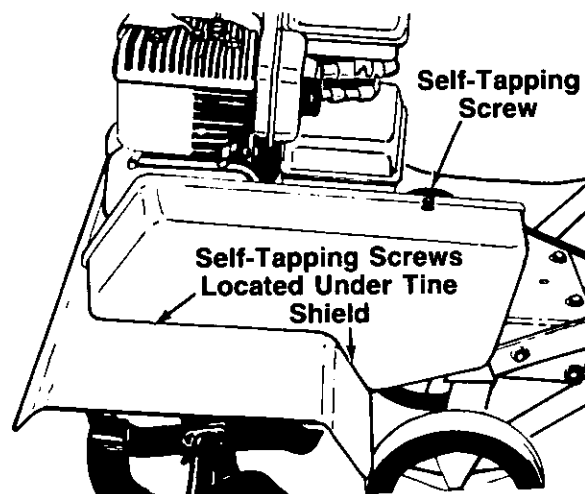

FIGURE 28.
1. Remove the belt cover by removing three self-tapping screws. A 3/8" wrench is required. See figure 28.
2. After removing three screws, lift off belt cover. See figures 28 and 29.
6. Reassemble the belt cover. See figure 28.